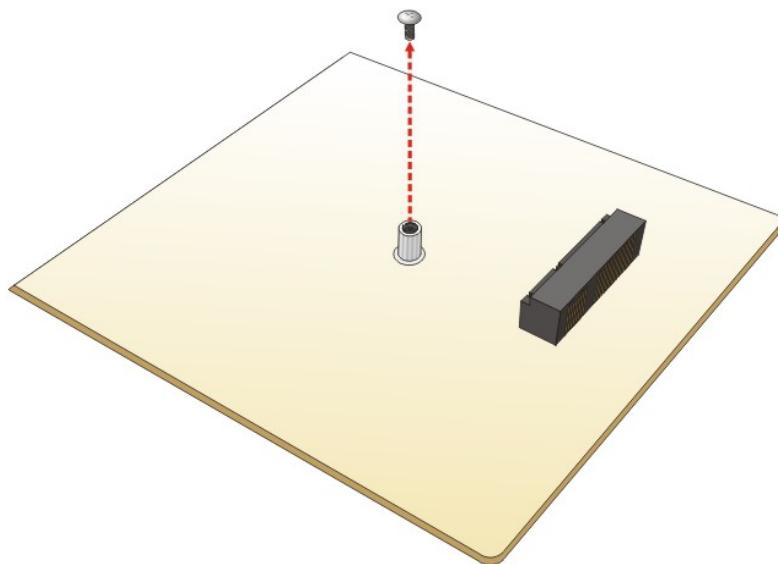

Figure 4-5: Removing the Retention Screw for the iRIS-1010 Module
Step 2: **Remove the retention screw.** Remove the retention screw as shown in **Figure 4-5**.